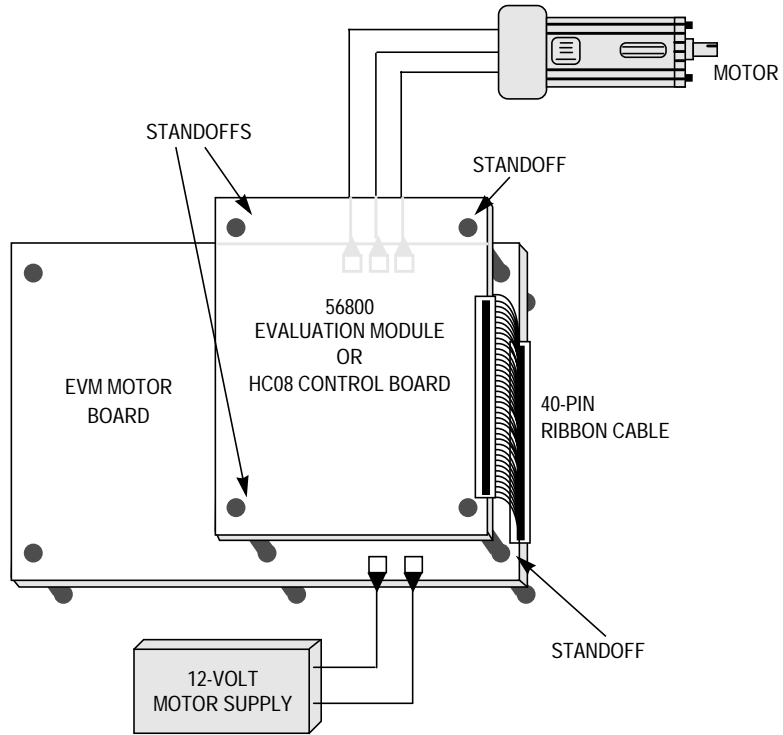

Figure 1-3. EVM Motor Board Setup
Setup and connections for the EVM motor board are straightforward. The EVM motor board connects to a Motorola embedded motion control series control board via a 40-pin ribbon cable. The motor's power leads plug into output connector J2, and its Hall sensors plug into the control board's Hall sensor/encoder input connector. **Figure 1-3** depicts a completed setup.
1. Mount four standoffs to the EVM motor board at the locations indicated in **Figure 1-3**. Standoffs, screws, and washers are included in the kit. This step and step 3 are optional when making connections with DSP control boards such as the DSP56F805EVM. The DSP boards may be placed flat on a bench, next to the EVM motor board.